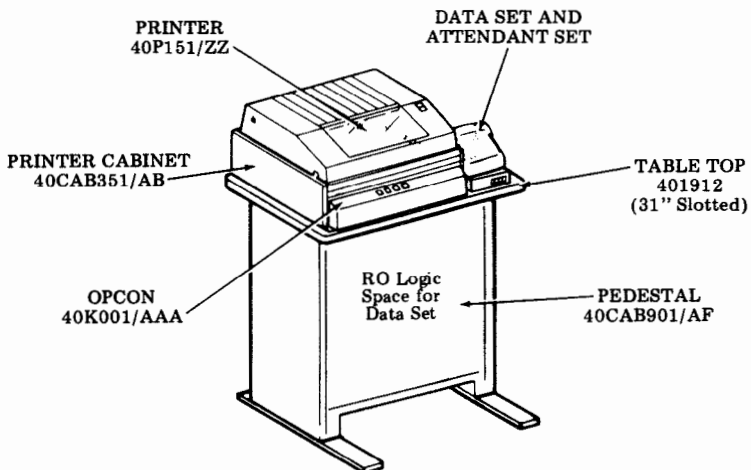

Fig. 12
3.11 Receive-Only Printer (ROP) Station — Tractor Feed (Fig. 12)